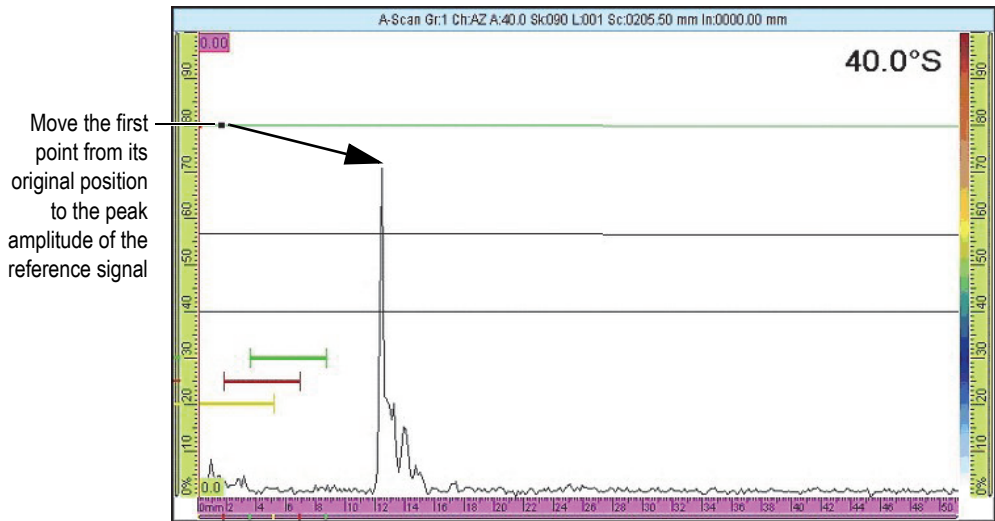

Figure 6-6 The first point of the DAC curve
3. Position the probe to obtain the maximum signal amplitude for the reference reflector corresponding to the first point to be added on the DAC curve (see Figure 6-6 on page 163).